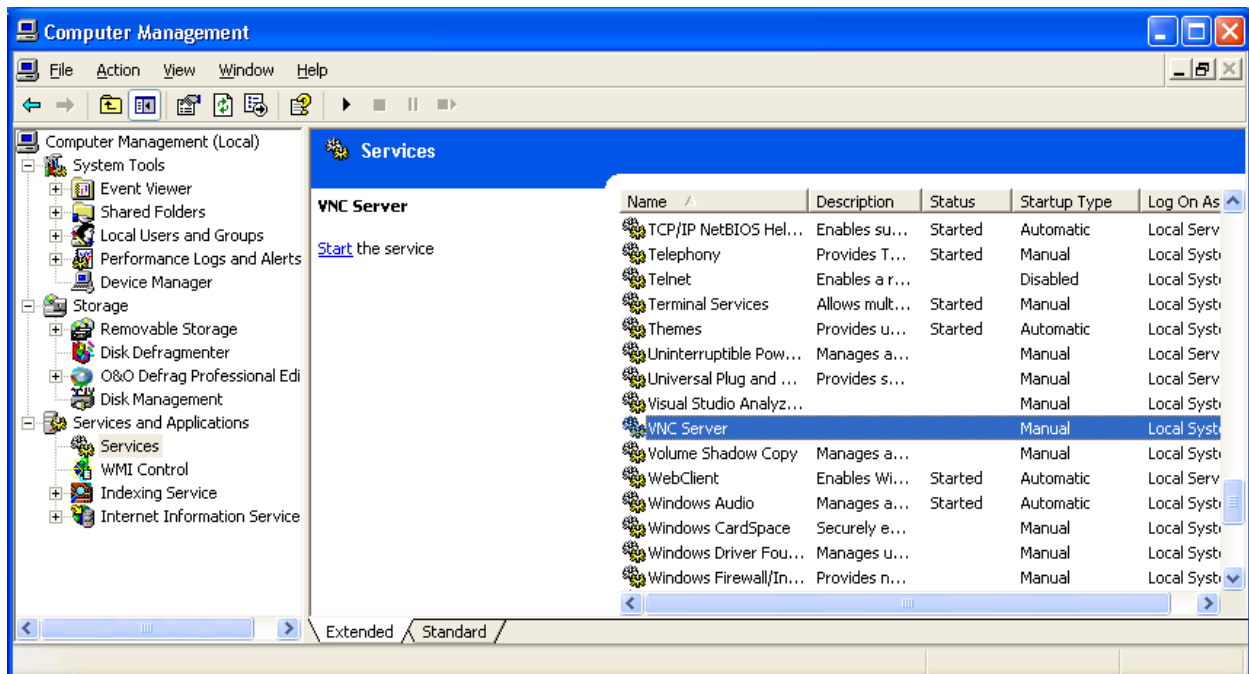

Figure 4
9. The “VNC Server” service can be set in the same manner. Figure 4.